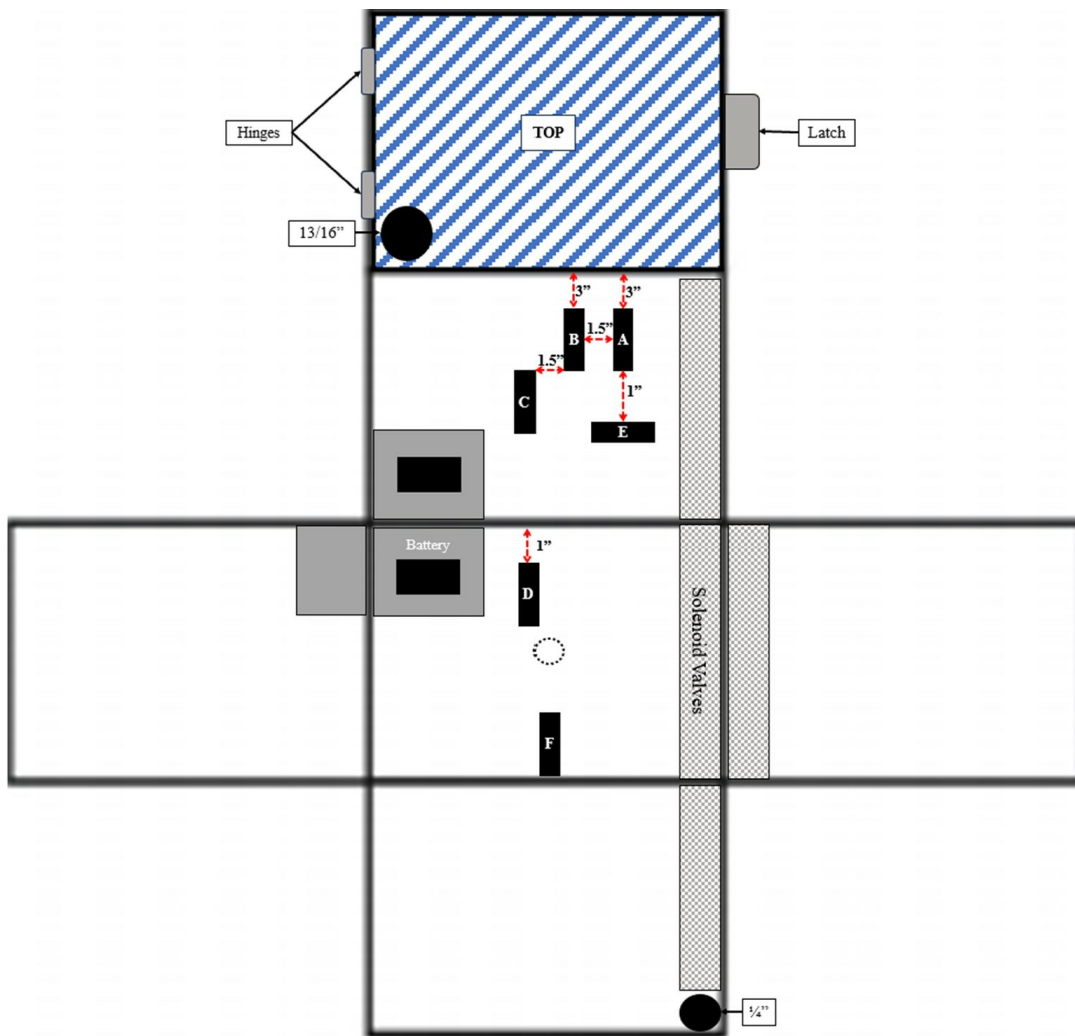

Figure 16. Velcro (soft side) placement in the case.
- (2)-1.5 inch wide by 2.25 inch long pieces.
- 17.6** Attach the Loop (Soft) Velcro to the inside of the case (Figure 16).
- 17.8** The battery will be situated in the corner of the box below the 13/16" hole with the prongs facing into the middle of the case. It will have Velcro on one side of the battery and on the bottom (1.5 inch by 2.25 inch Velcro size). See Figure 16.
- 17.13** Place the circuit assembly and solenoid valve assembly into the case and position it with the proper piece of Velcro it is meant to line up with (Figure 16). Additionally, make sure the solenoid valve assembly is positioned that the check valve with barb is aligned with the plastic tubing located in the 1/4 inch drill hole.